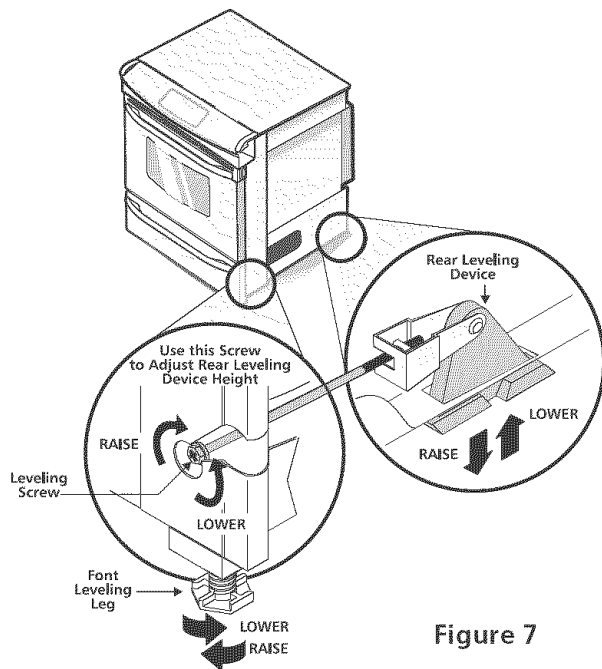

Figure 7
13. **Level the range** (see section 5). The floor where the range is to be installed must be level. Follow the instructions under "Leveling the Range- Models Equipped with Leveling Device" (figure 7).
2. Adjust the appliance legs as follows until the underside of the cooktop surface is sitting level on the countertop (Figure 7).